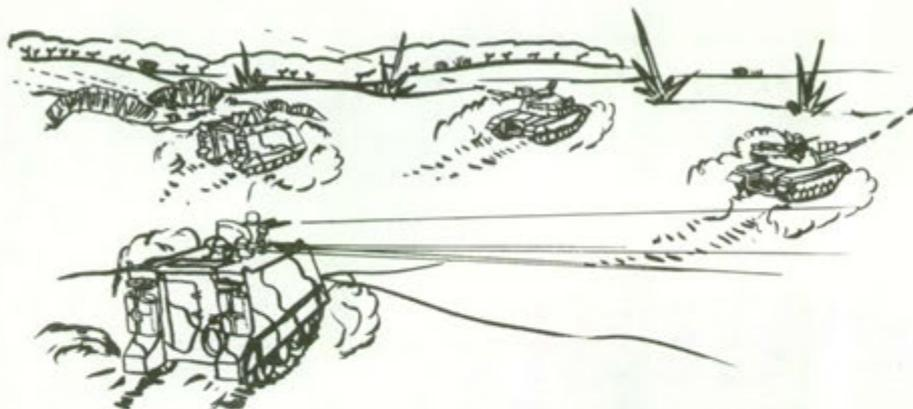

Figure 2.
2. The most critical action taken upon receiving direct fire is to return that fire with all available weapons. The caliber .50 plays the primary role in this effort to **suppress** the enemy's fire, but the added firepower of any weapons being employed from the cargo hatch must not be overlooked (figure 2). This massive response is crucial in order to allow subsequent actions.